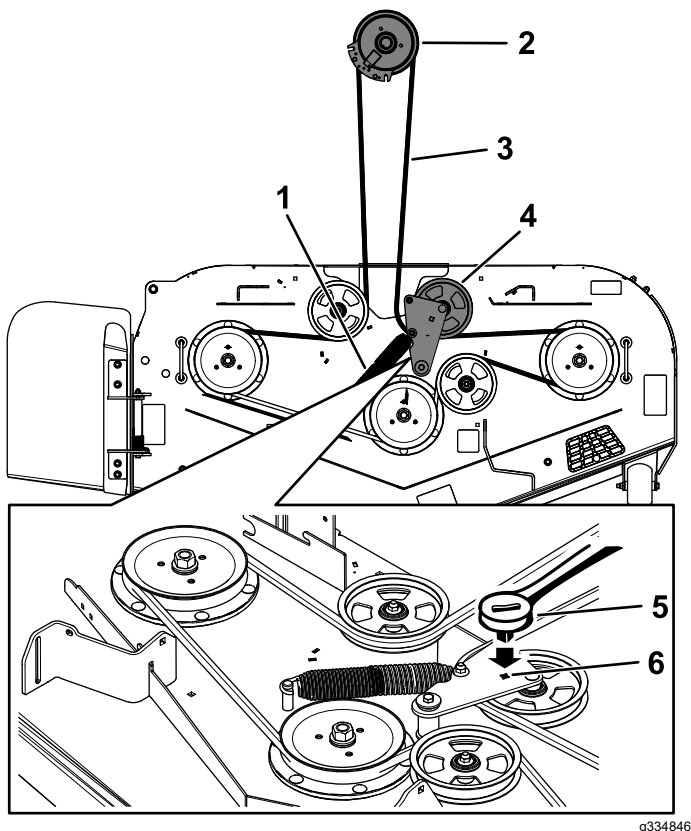

Figure 65
5. Use a 3/8-inch ratchet in the square hole in the idler arm to remove tension on the idler spring (Figure 65).
7. Remove the belt guide on the spring-loaded idler arm (Figure 65).
9. Install the new belt around the mower pulleys and the clutch pulley under the engine (Figure 65).
10. Install the belt guide on the idler arm (Figure 65).
11. Using the 3/8-inch ratchet in the square hole, install the idler spring (Figure 65).